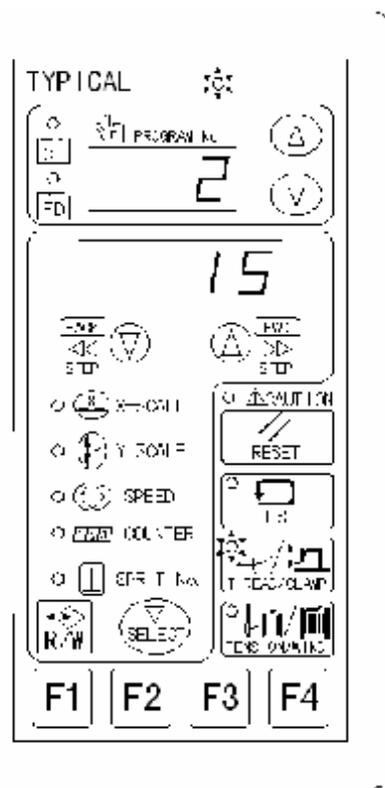
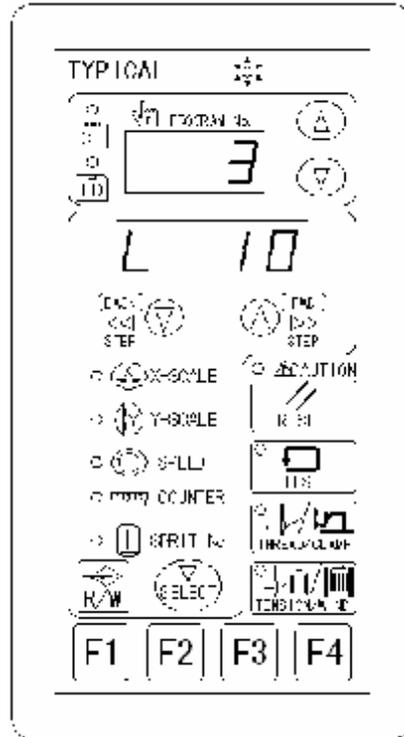

Fig. 4-3
Fig. 4-4
4. Under the threading mode, press  to switch to the presser foot frame height set-up mode (see Fig. 4-3), and press  key to switch to the middle presser foot frame height set-up mode (see Fig. 4-4), then the  SPEED light